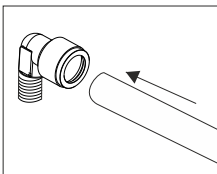

Fig. 3
- 1) Push the tube into the quick-coupling (Fig. 3).